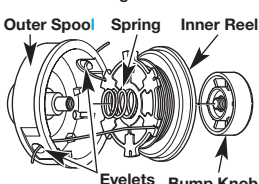

Fig. 21
4. Insert the two 6-inch sections into the two .095 holding slots (Fig. 21).